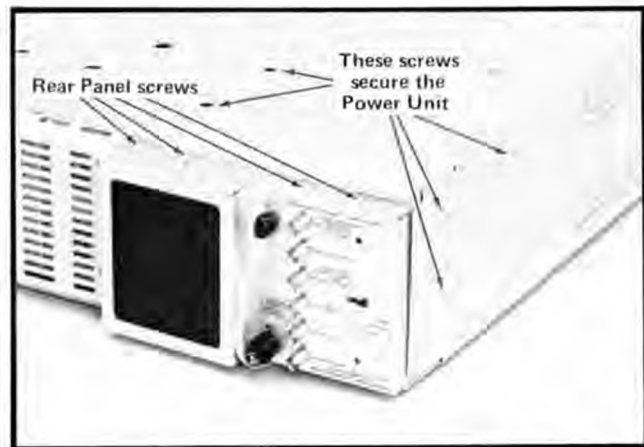

Fig. 5-1. Power unit removal for the R7603.
2. Remove the five screws which secure the power unit to the sides of the instrument, and the four rear panel screws (see Fig. 5-1 for locations of screws on R7603).